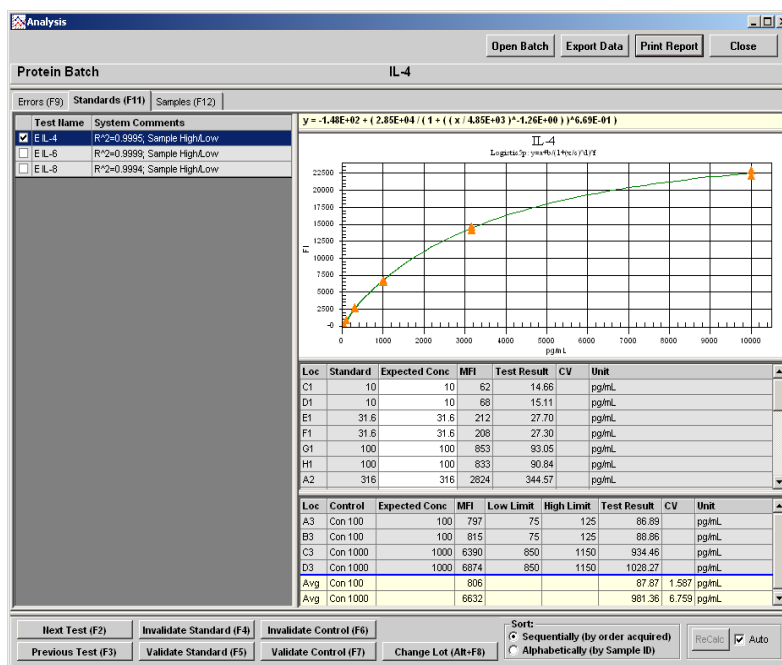

Figure 5-74 Analysis Window—Standards Tab (Data Reduction)
2. Select a batch to analyze and click **Select**. The system loads the batch and the Analysis window displays the **Standards** tab. See Figure 5-74.
2. Click on the desired batch to analyze and click **Select**. The Analysis window opens showing the progress as the system opens the batch and analyzes the data. See Figure 5-74. Each test displays “Analyzing” as the system calculates.